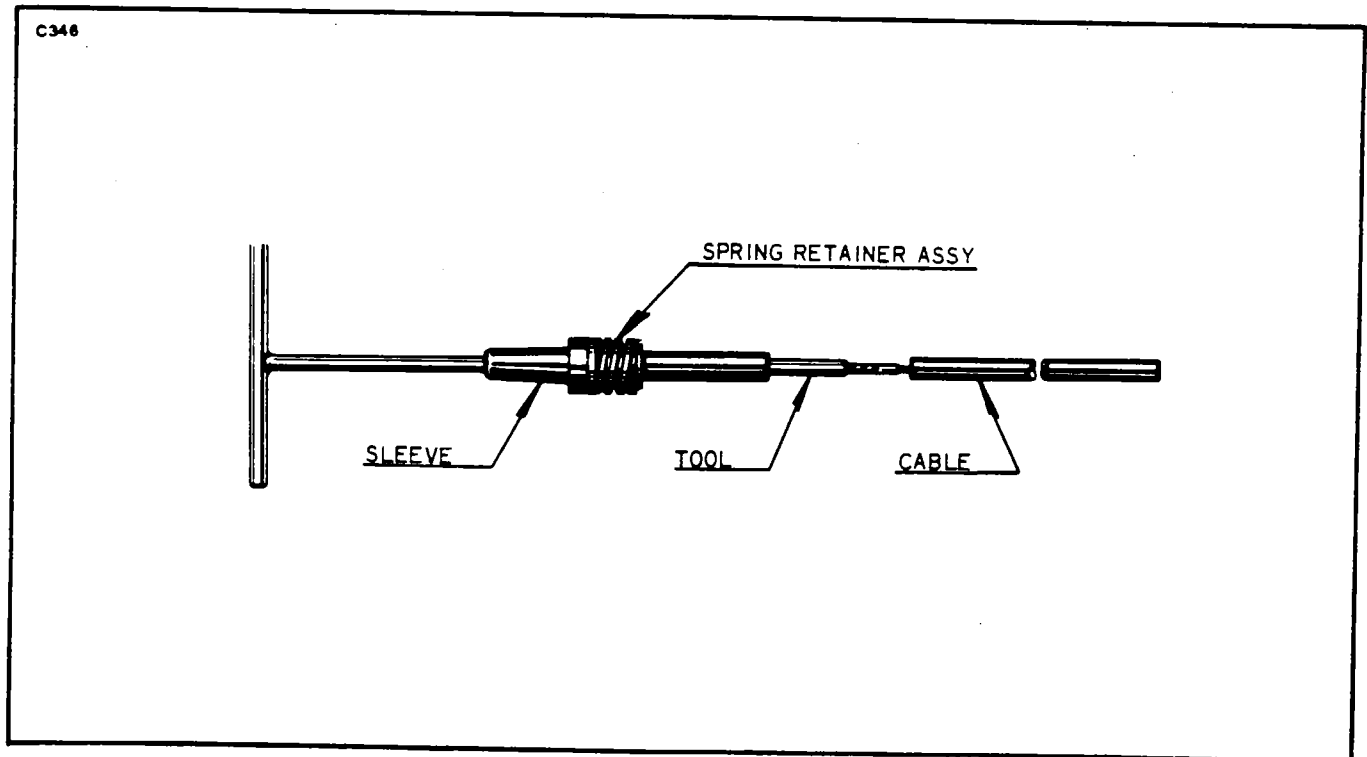

Figure 8-28. Using Assembly Tool
3. Push the fabricated tool through insulating sleeve and spring retainer assembly as shown in Figure 8-28. Screw the cable terminal into the tool.